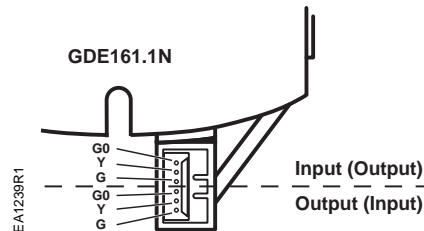

Figure 26. GDE161.1N Post Header AMP.
The GDE161.1N Post Header AMP has two sets of identical contacts as shown in Figure 26.
1. The open bracket to the right of the actuator (See Figure 26) is used for strain relief of the customer purchased cabling (See *Required Tools*).